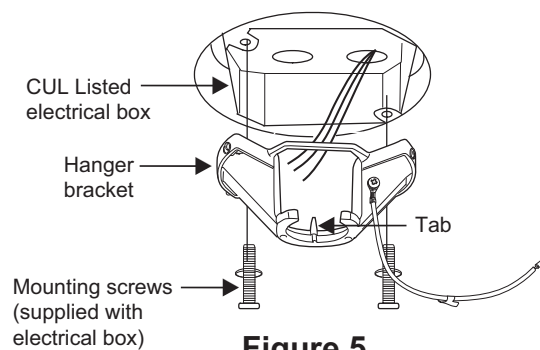

Figure 5
**Step 1.** Pass the 120-volt supply wires through the center hole in the ceiling hanger bracket as shown in Fig. 5.
1. Pass the 120-volt supply wires through the center hole in the ceiling hanger bracket as shown in Fig. 5.